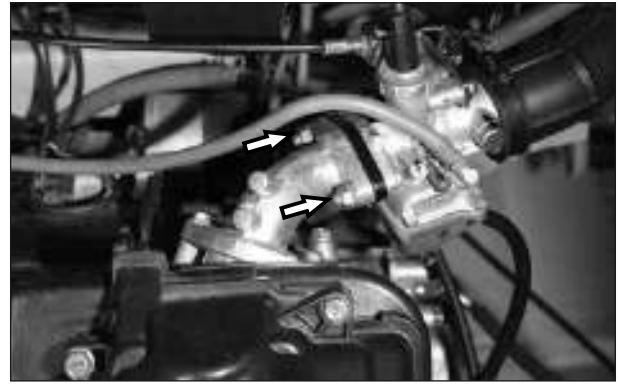

Fig. 4.16
- Loosen and remove 2 nos. Hexagonal flange nut M6 from intake manifold. (Fig. 4.16)